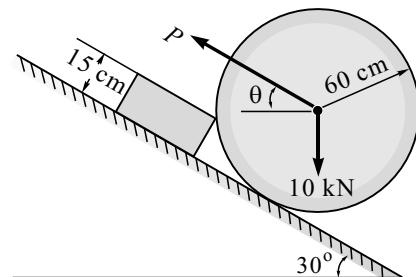

Fig. 3.E20
21. A vertical pole is anchored in a cement foundation. Three wires are attached to the pole as shown in Fig. 3.E21. If the reaction at point A consists of the reactions as shown, find the tensions in the wires.